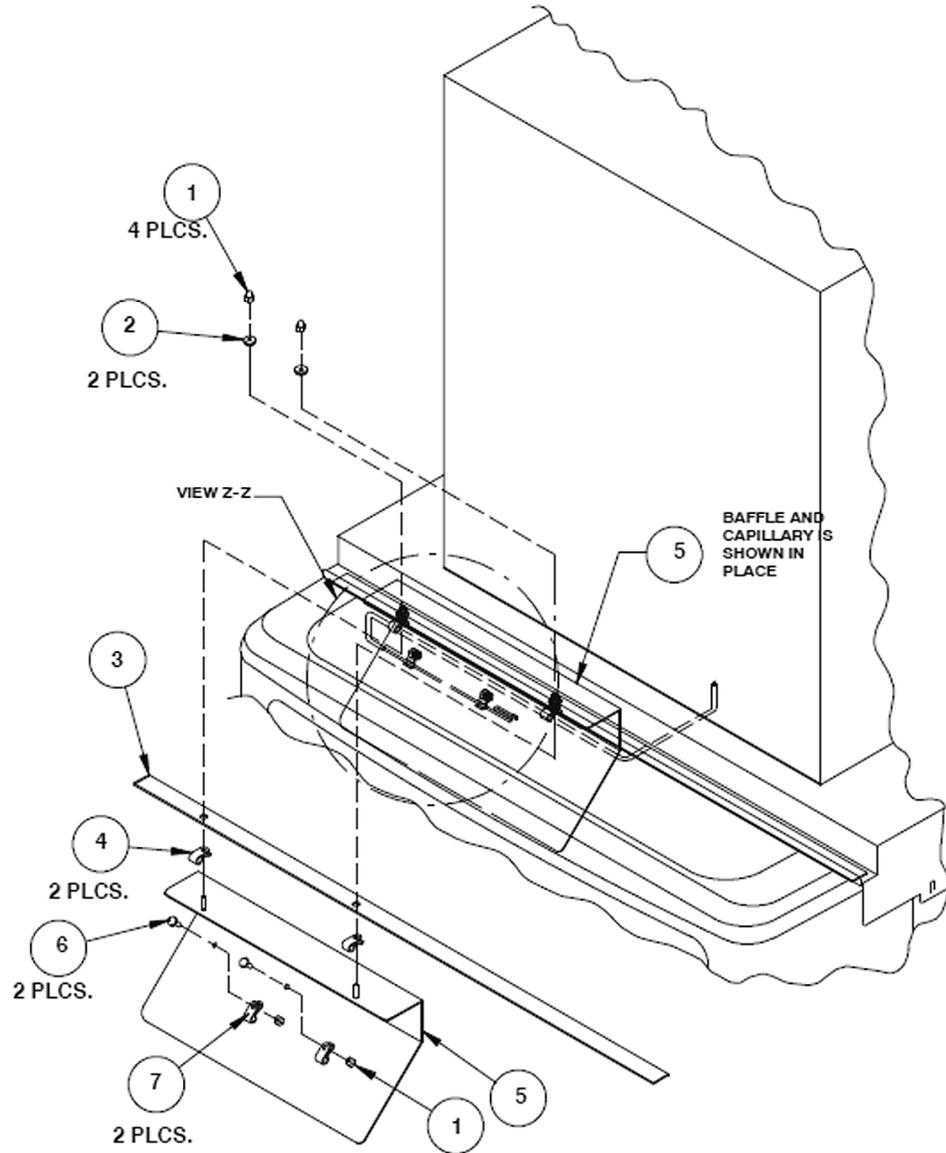
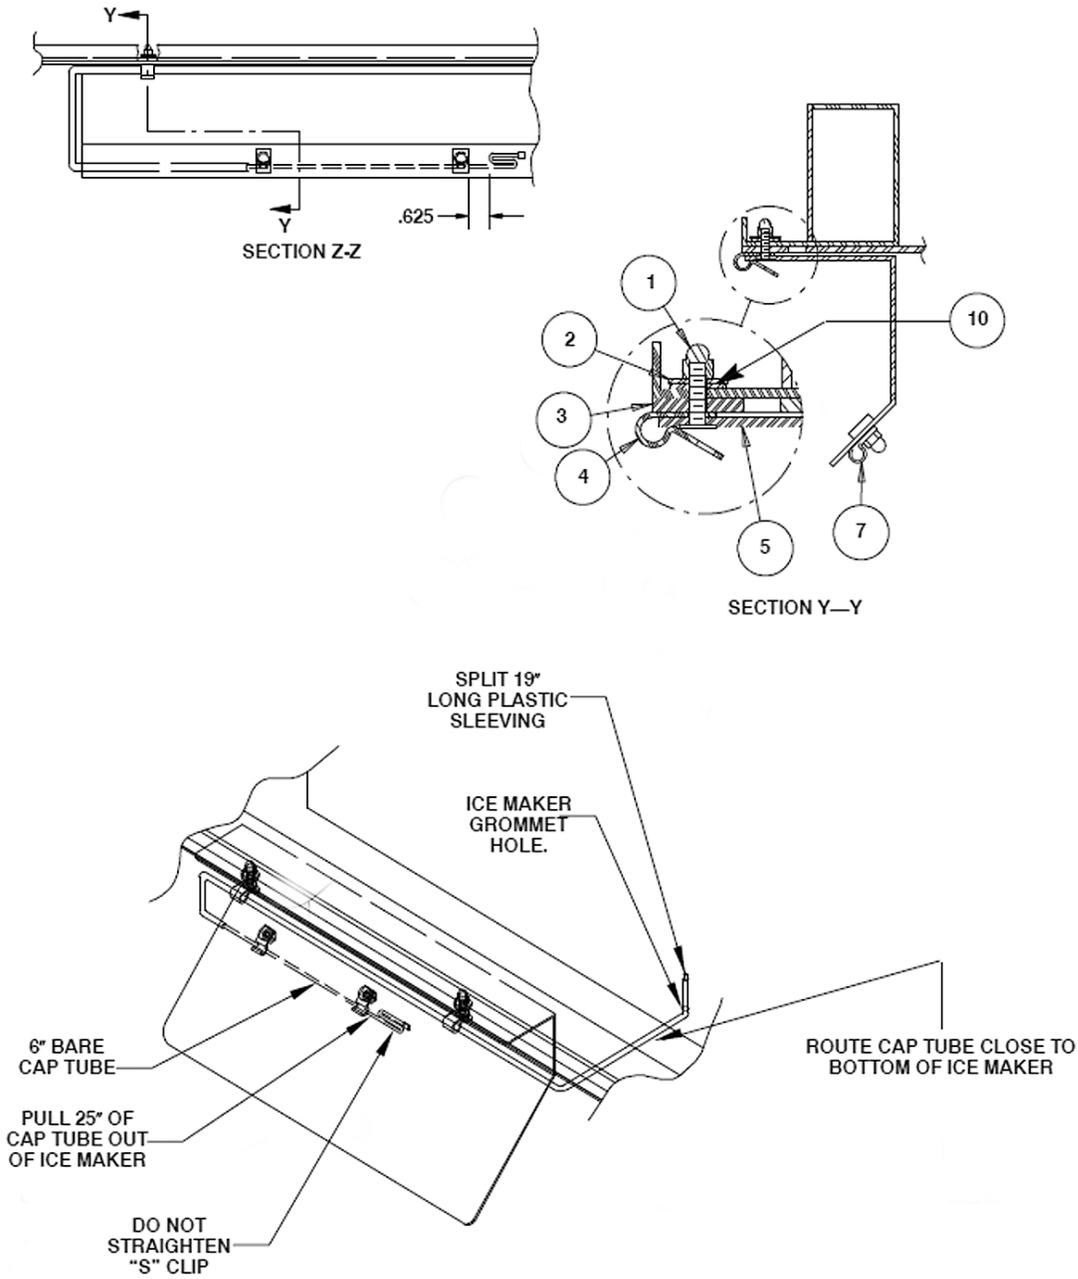

Figure 1. ED/DF2XX Baffle Kit
Figure 2. ED/DF2XX Baffle Kit Details
### Refer to Figure 1 and Figure 2
3. Use plastic insulation strip (item 3) as a drill template. Place edge of template flush with front edge of "J" channel. Position strip 3 1/422 from left edge of stainless steel adapter to the left edge of the strip. Tape in place.
4. Drill (2) 3/1623 diameter holes using care to catch and remove all metal shavings from the dispenser.
7. Pull 2522 of capillary out of bottom of the ice maker. Slit and place plastic sleeve (item 8) over the capillary tube leaving 622 of bare capillary tube exposed between capillary "S" bend and sleeving.
8. Assembly (1) Bin Stat Insulator (item 11), (2) 1/822 plastic clamps (item 7) to the back side of the SS baffle (item 5) with (2) 8-32 x 3/822 screws (item 6) and plastic acorn nuts (item 1). Do not tighten.
9. Route capillary tube around baffle as shown in Figure 1 and Figure 2.
10. Position (2) 1/422 plastic clamps (item 4) on first (2) studs of SS baffle (item 5).
12. Place (2) sealing washers (item 2) over studs and (2) flat washers (item 10), then fasten in place with (2) plastic acorn nuts (item 1).
13. Route and form capillary as shown in Figure 1 and Figure 2. Tighten (2) plastic clamps (8-32 x 3/822 screws) to hold capillary tube in place.